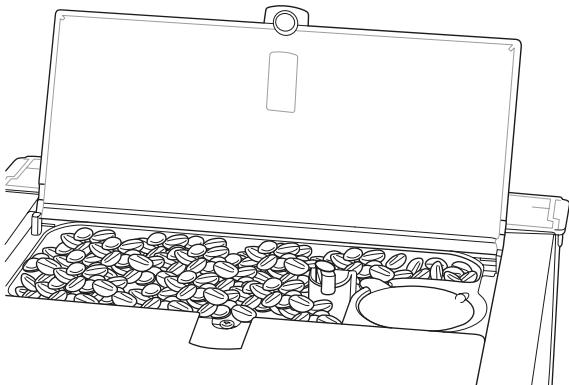

Fig. 4: Adding beans
2. Fill the bean container with coffee beans (Fig. 4)